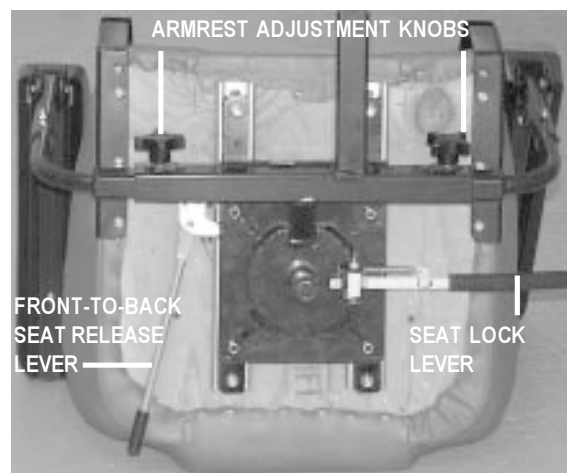

FIGURE 14. SEAT ADJUSTMENTS
1. Pull out the front-to-back seat release lever. See figure 14.
1. Push down on the seat lock lever to unlock the seat. See figure 14.
1. Loosen the armrest adjustment knobs at the back of the seat frame. See figure 14.